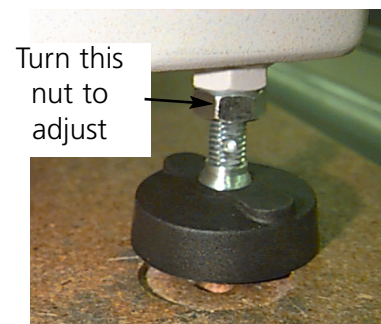

Figure 1-13
4. Install the 4 “feet” on the peripheral (see Figure 1-13). Turn the indicated nut with an adjustable wrench to unscrew the stem on the foot to screw it into the peripheral.
5. Place the machine on the surface where you intend to use it, and level the machine. Adjust the appropriate feet, if needed, by turning the nut indicated in Figure 1-13.